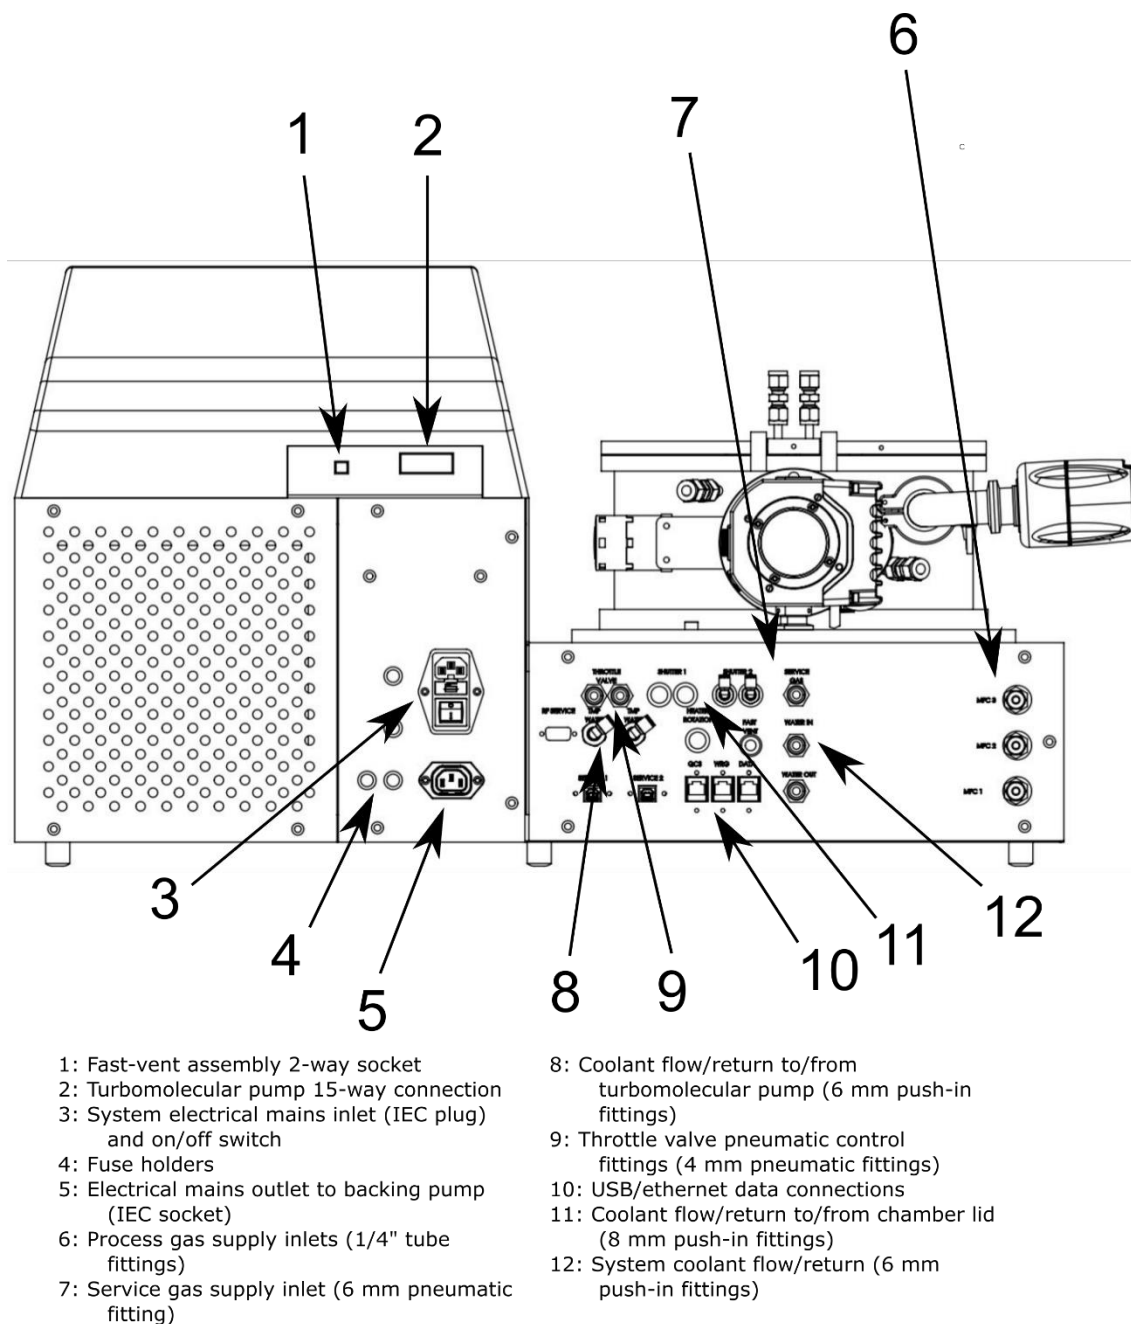

Figure 5: Layout of the system's back panel indicating the nature of the various connections present.
Figure 5 shows the locations of heat shielding within the chamber.
Figure 5: Model showing the locations of heat shielding within an ANNEAL process chamber. Note that the exact locations of heat shielding will depend on the specific configuration.
Figure 5 shows the connections on the back panel of the unit. These connections are used during installation.
- 10. Connect the turbomolecular pump control cable to the appropriate connections on the unit's back panel. The back-panel connection is indicated in Figure 5.
- 15. Connect the electrical mains IEC cable between the pump and the main unit. The appropriate connection on the back of the main unit is labelled in Figure 5